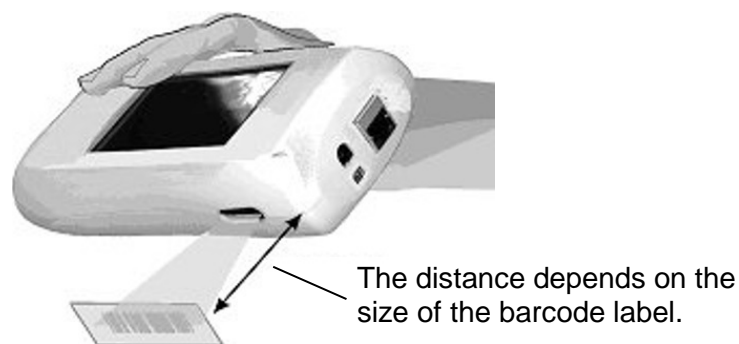

Figure 14 – Scanning a barcode
- 2 While the scanner light flashes, hold the instrument at a 90-degree angle to the barcode label. See Figure 14.